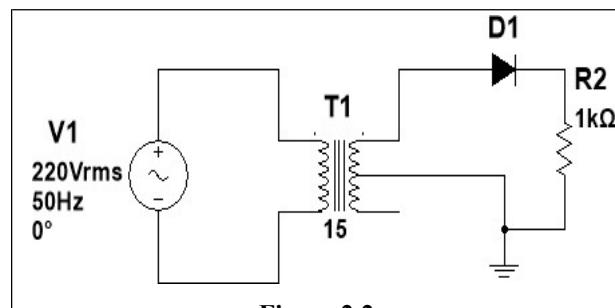
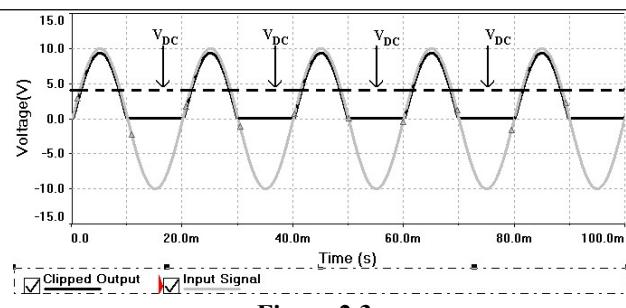
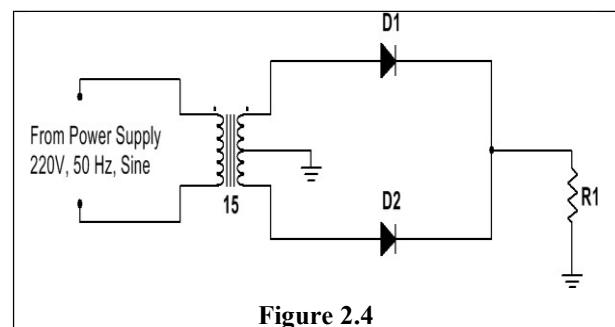
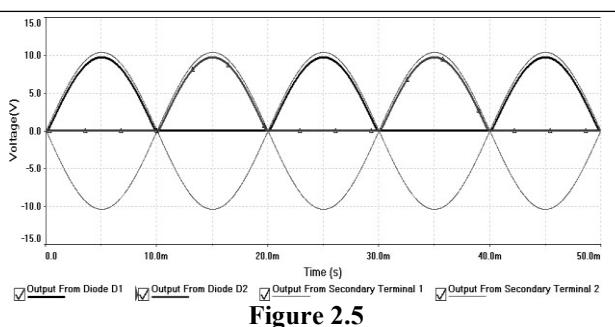

Figure 2.2
Figure 2.3
Figure 2.4
Figure 2.5
As we know, the rectified half-wave form does not look like the DC voltage of a battery at all. The half wave rectified voltage can be called a pulsating "DC" voltage, because it stays positive all the time and gives a current that flows one way only. However, it is not constant and has an AC component that varies between the sinusoidal peak and zero, as indicated as V_{pp} in **Figure 2.3**. We can define one half of this amount as the amplitude of the residual AC component in the rectified voltage:
Figure 2.2 shows the schematic of a half-wave rectifier circuit. The DC component V_{DC} of the rectified voltage is indicated in **Figure 2.3** by a line above the time axis, which represents the average value of the rectified voltage over the whole period. If a battery having a voltage equal to this average voltage, V_{DC} is used to drive a DC motor, for instance, it should provide an equivalent power as the rectified waveform does. Experimentally, this DC component can be easily measured by switching the signal input between DC coupling and AC coupling on the oscilloscope panel. When the switch is on the AC coupling, the waveform would move down vertically on the screen exactly by the amount V_{DC} .
The waveform of **Figure 2.3** cannot be used as a good DC power supply in most applications due to its significant AC component. We generally use full-wave rectifier to achieve higher values of average DC voltage. Full-wave rectifiers provides two times average DC component as compared to half-wave rectifiers. For this experiment we will be using a full-wave rectifier designed using a center tapped transformer. Circuit diagram of such a full wave rectifier using center tapped transformer is shown in **Figure 2.4**. Input and Output voltage waveforms of a full wave rectifier is shown in **Figure 2.5**.
- 1) Connect the circuit as sequentially as in Figure 2.4, 2.6 and 2.8 respectively.